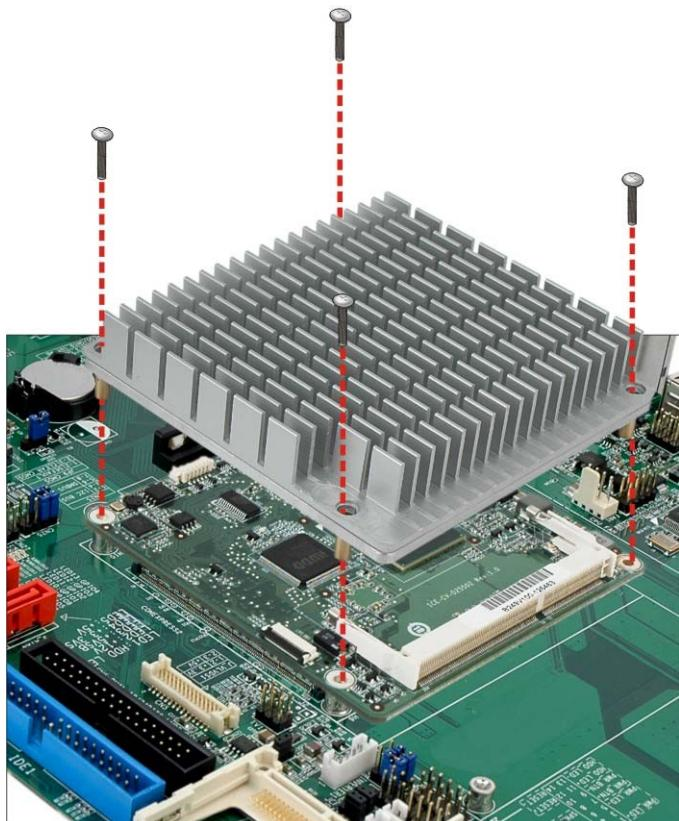

Figure 4-4: Secure the Heatspreader Plate with the Heat Sink to the Baseboard
Step 3: Place the heatspreader plate with the heat sink on the ICE-CV-D25502/N26002, aligning the four retention screw holes (**Figure 4-4**).
Step 4: Secure the heatspreader plate with the heat sink onto the baseboard with four retention screws (**Figure 4-4**).